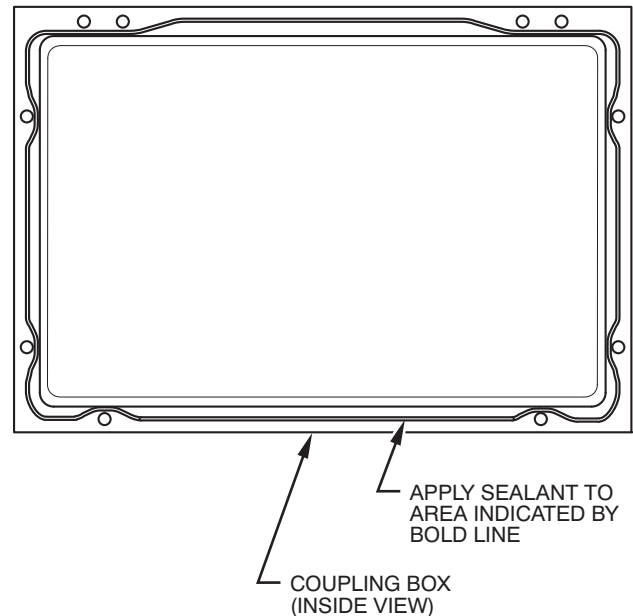

Fig. 4 - Coupling Box Sealant Application
3. Apply generous bead of RTV sealant (G.E. 162, G.E. 6702, or Dow-Corning 738) to coupling box flange. Sealant must not set more than 10 minutes prior to installation. (See Fig. 4.)